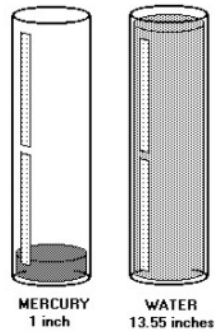

Figure 3 - 5th Principle of Pressure
- The fifth principle of pressure -the pressure of a liquid in an open vessel is proportional to the density of the liquid **[See Figure 3]**